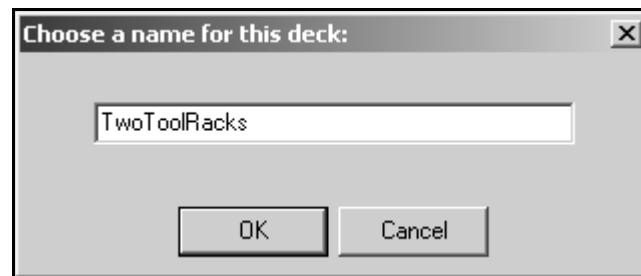

Figure 3-16. Choose a name for this deck
2. Select **New Deck**. Choose a name for this deck appears (Figure 3-16).